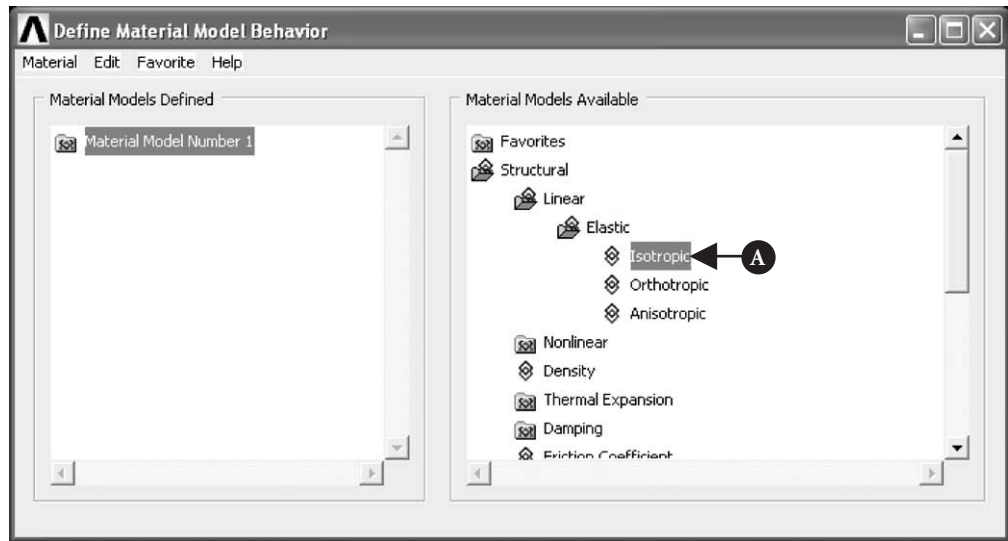
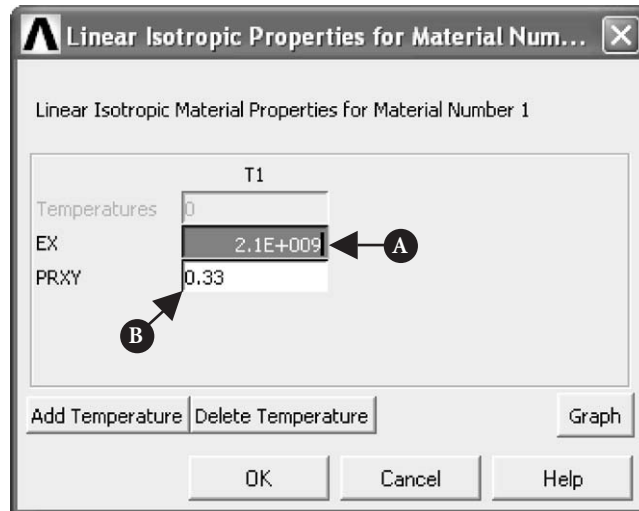

Figure 2.12 Define Material Model Behavior.
Figure 2.13 Linear isotropic material properties.
- (ii) Define properties of, for example, isotropic material. Use **ANSYS Main Menu** and select **Preprocessor** → **Material Props** → **Material Models**. A frame shown in Figure 2.12 appears.
As shown in Figure 2.12, [A] **Isotropic** was chosen. Clicking twice on [A] **Isotropic** calls up another frame shown in Figure 2.13.
Enter data characterizing the material to be used in the analysis into appropriate field. For example, [A] **EX** = 2.1E+009 and [B] **PRXY** = 0.33 as shown in Figure 2.13. If the problem requires a number of different materials to be used, then the above procedure should be repeated and another material model created with appropriate material number allocated by the program.